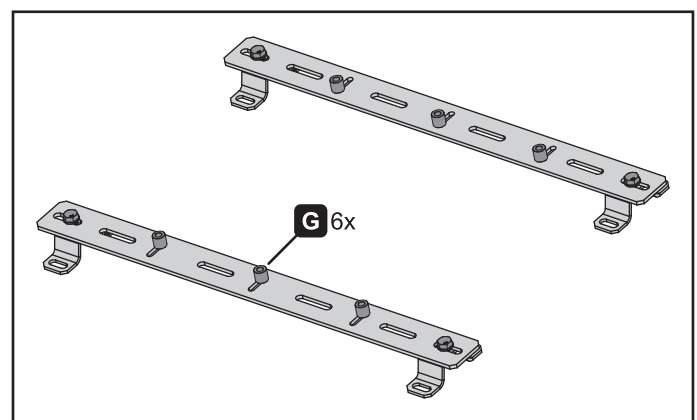

Figure 2.
6. Place the six spacers (G) on the crossbars, aligning each hole with the vertical slots (figure 2).